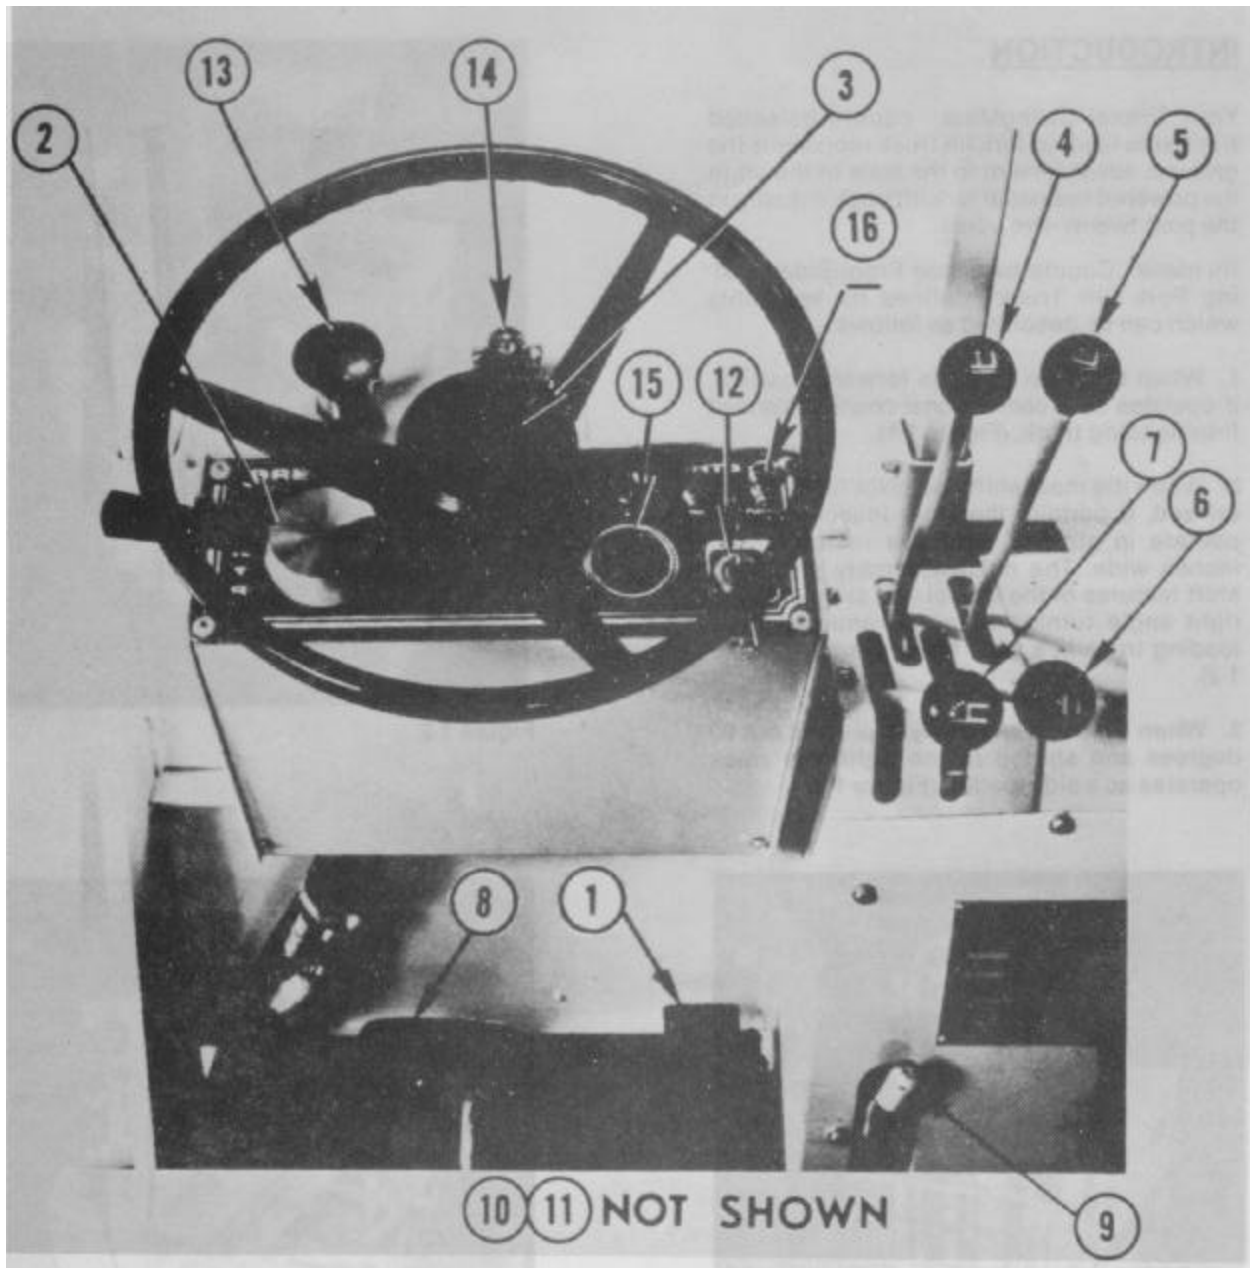

Figure 1-4.
OPERATING CONTROLS (Figure 1-4)
2. Disengage parking brake. (item 9). (Figure 1-4).
3. Turn key switch (item 12) (Figure 1-4) to the "ON" position as indicated on dash panel.
4. Move directional control lever (item 2) (Fig. 1-4) to forward (F) or reverse (R) position to select direction of travel.
The truck is equipped with an automatic return-to-neutral feature. If the start key (item 12) (Figure 1-4) is turned to the "OFF" position or the operator leaves the operator seat or both, with the directional control selection lever (item 2) (Figure 1-4) in a drive mode of operation the truck automatically, electrically returns to its neutral position. (Ref. Page 1-5).
The hydraulic control levers (items 4, 5, 6 & 7) (Figure 1-4) are clearly identified by international symbols. Thoroughly familiarize yourself with their actions as described in the operating control portion of this section.
The mast lift and tilt control functions (Fig. 1-4, items 4 & 5) are the same as on any standard powered industrial fork life truck.